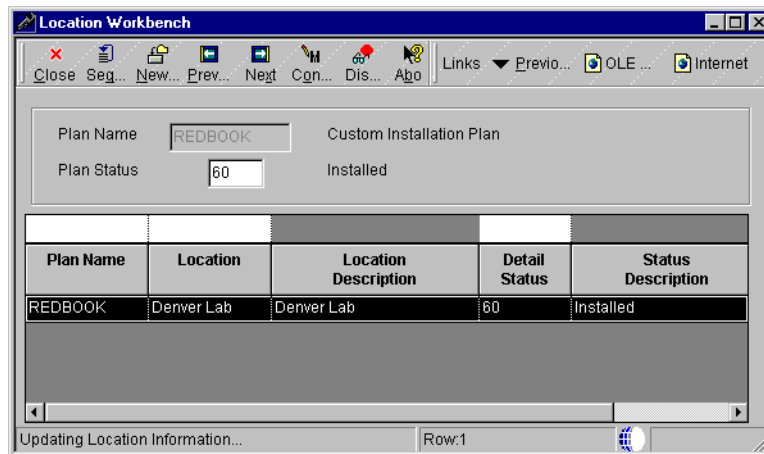

Figure 81. OneWorld Location Workbench
OneWorld updates the Detail Status (60) and Status Description (Installed). Your display should look similar to the example in Figure 81 on page 216.